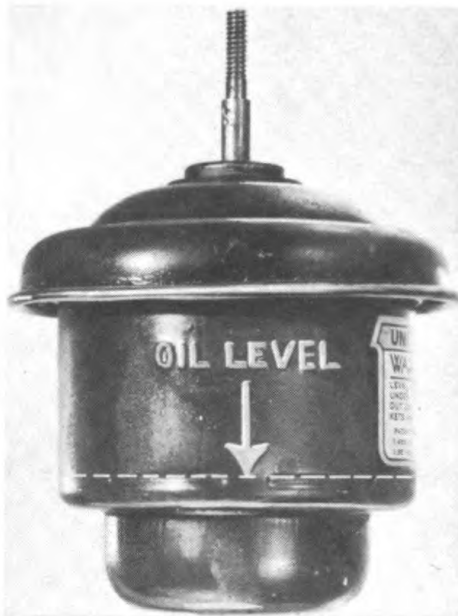

Fig 28. Correct oil level in oil bath air cleaner.
c. Air cleaner. Fill with engine oil to point of arrow on outside of cleaner every 8 hours of operation (fig 28). Disassemble, clean parts with dry cleaning solvent, and refill with engine oil every 48 hours of operation. To do this, remove cleaner as shown in figure 29, unscrew top, and lift out screen (fig 30).